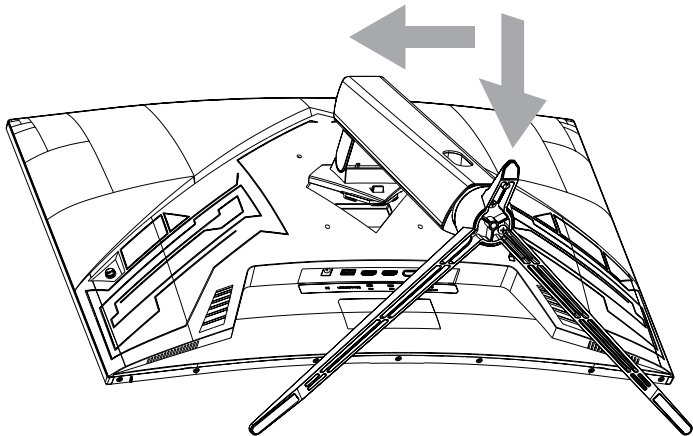

Figure2
- 2. Tilt the base into the hole of the rear shell in the direction of the arrow, as shown in Figure2.
- 3. Rotate the entire base clockwise and install it downwards, as shown in Figures 2 and 3.